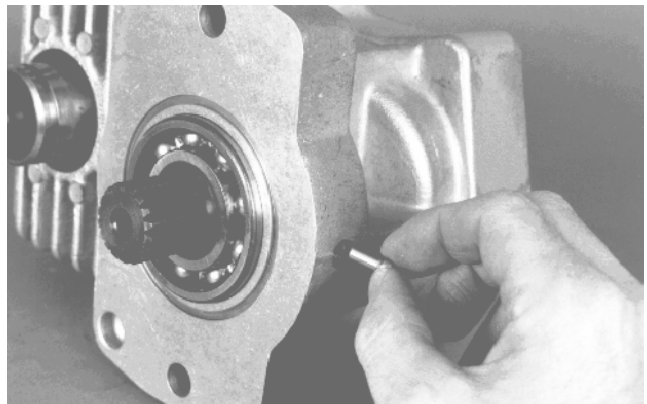

Figure 66
11. Install motor shaft bearing retaining pin into housing (Fig. 66).